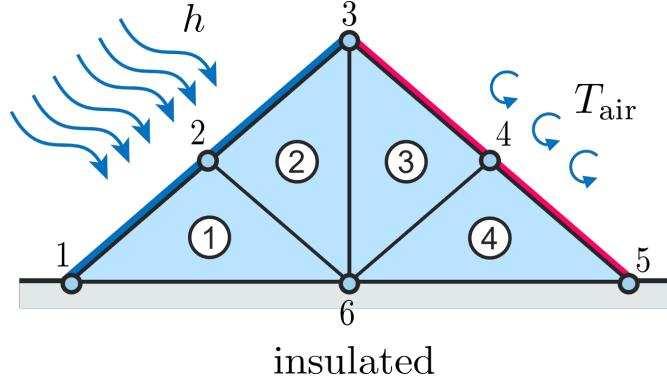

Figure 3: The roof domain in Problem 2 discretized into four elements.
- b) By discretizing the domain into four elements (see Figure 3) and introducing the linear finite element approximation on the form $T(x, y) \approx \mathbf{N}(x, y) \mathbf{a}$ and using Galerkin's method, the